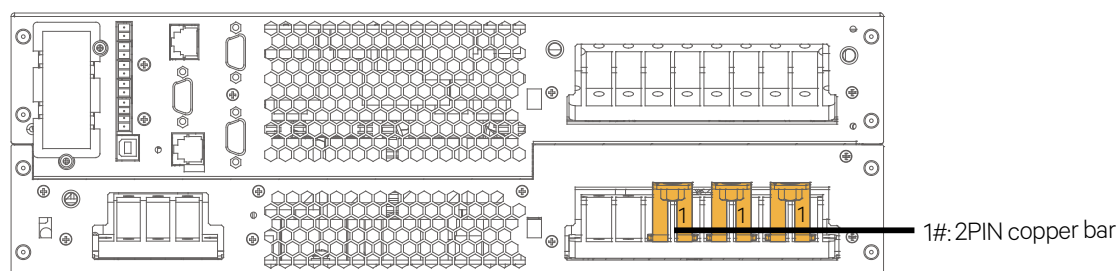

Figure 5-26 Changing power distribution mode
1. Remove all shorting copper bars of the 3-in 1-out system. Install shorting copper bars 1# as shown in Figure 5-26 (No need to install shorting copper bars for 3-in 3-out split-bypass configuration). And then connect all the cables.